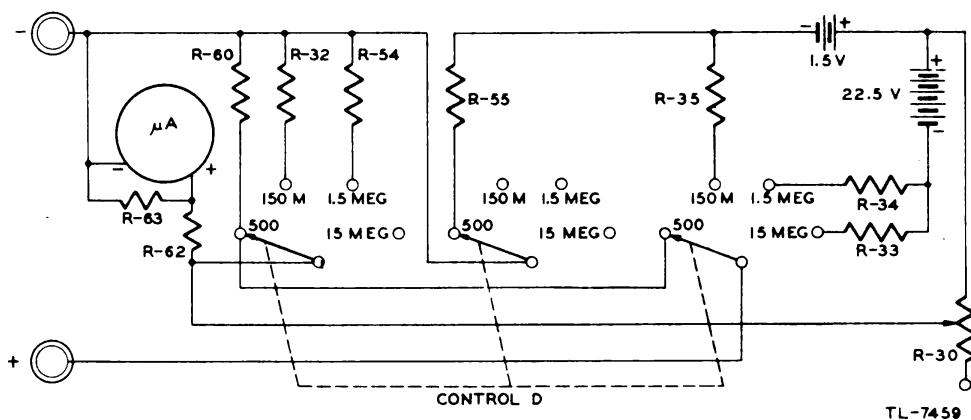

FIG. 19. MODEL 104 COMBINATION TESTER, SIMPLIFIED OHMMETER CIRCUIT
g. *Combination Tester as Ohmmeter* (fig. 19). Control D arranges the circuits so that for each of the four resistance ranges, the proper multiplier and shunt resistances are inserted. Battery BA-30 (1-1/2-volt) sup-